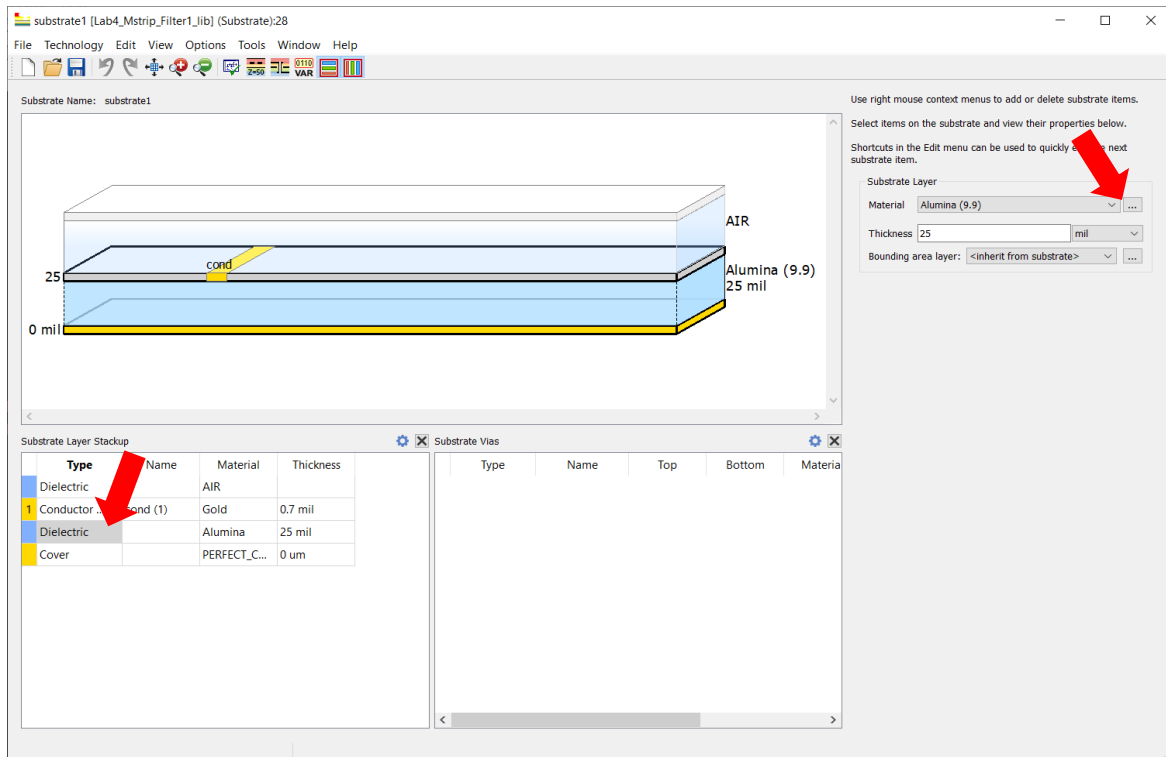

Figure 13. Substrate Editor window
5. The substrate editor below will be opened. Click the **Alumina** dielectric layer and then click the “...” button, as shown in Figure 13.